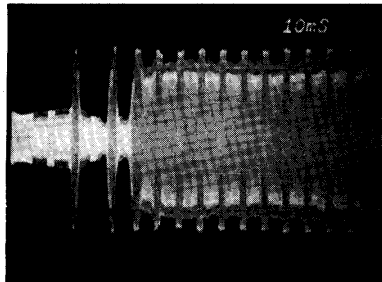

FIGURE 4 HEAD LOAD ACTUATOR TIMING
- Energize the Head Load solenoid and observe the read signal on the oscilloscope. The signal must be at 50% of full amplitude by 35Msec. Reference Figure 4.